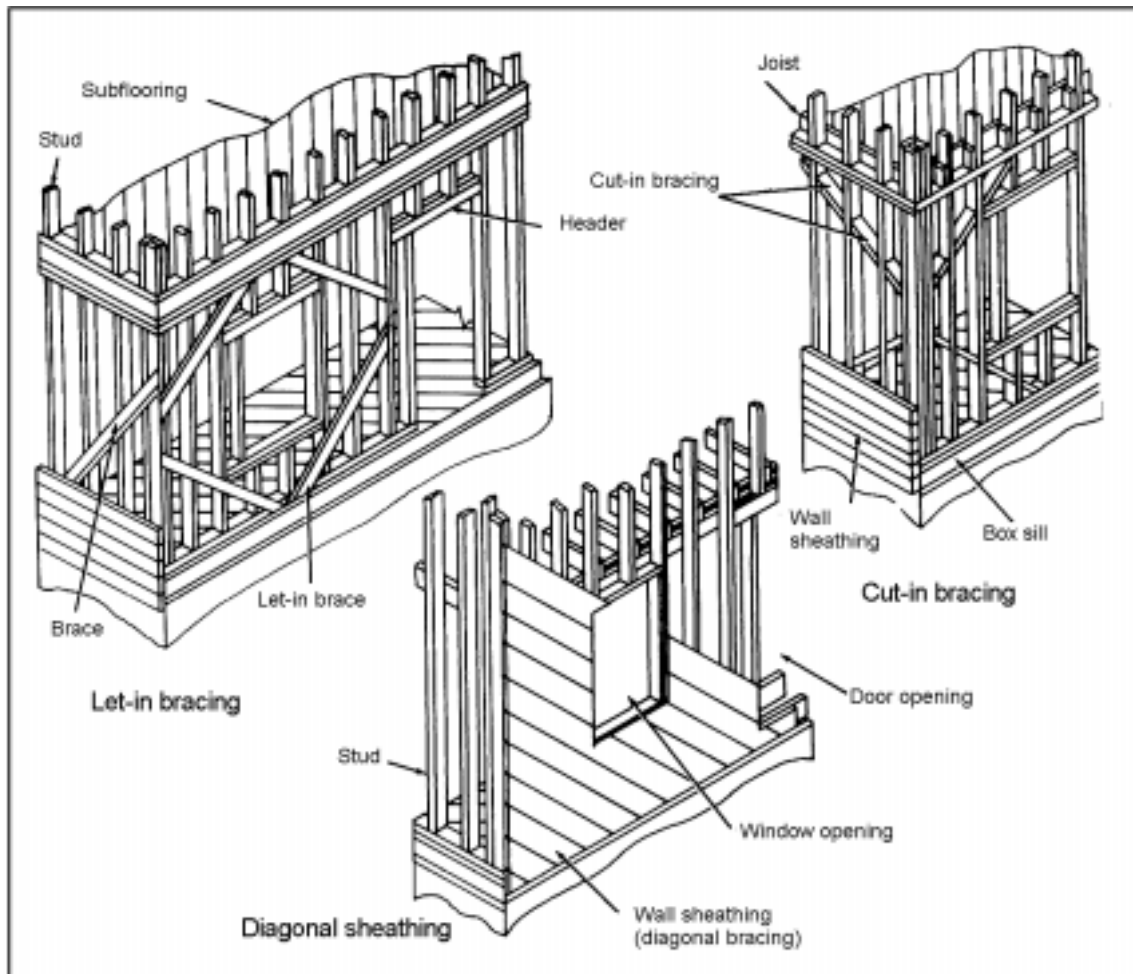

Figure 051-236-1203-2
i. Bracing. Used to stiffen framed construction and make it rigid (Figure 051-236-1203-2). The three methods of bracing include let-in bracing, cut-in bracing, and diagonal sheathing.